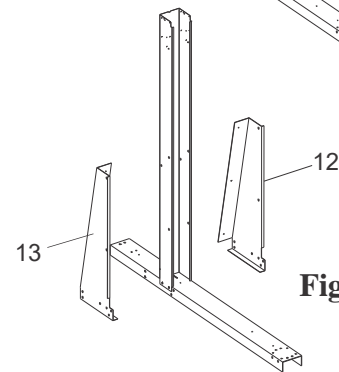

Fig. 13
C) Once the straight side 4"x4" uprights are attached, apply the left and right side gussets on each. The pieces are marked "L" and "R". The gussets are applied under the channels and around the straight side upright. Once you have them in place screw the left and right gussets to each other using three #10 screws. (Fig.13).